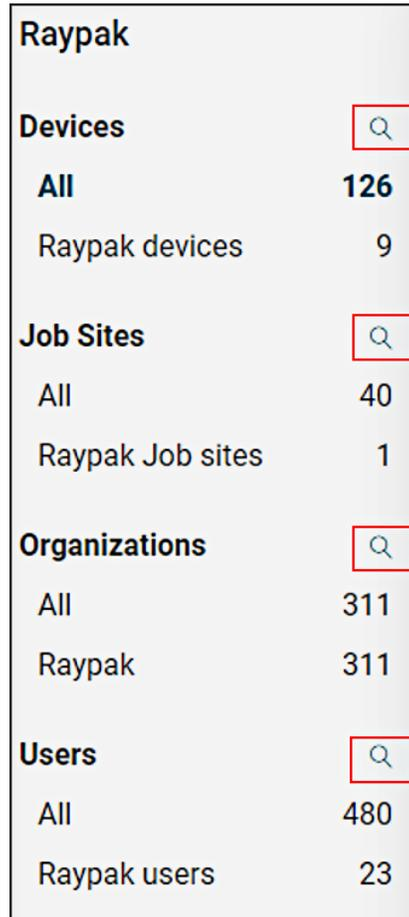

Figure 41. Search Functions
2. Select the search desired search category see Figure 41.